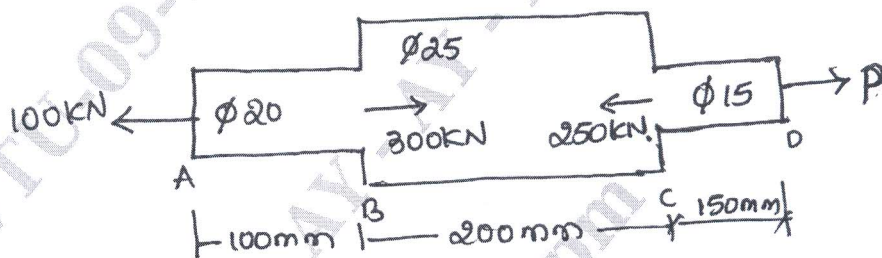

Fig.Q1(b)
- b. Determine the stresses in various segments of the circular bar shown in Fig.Q1(b). Compute the total elongation taking Young's modulus to be 195 GPa.